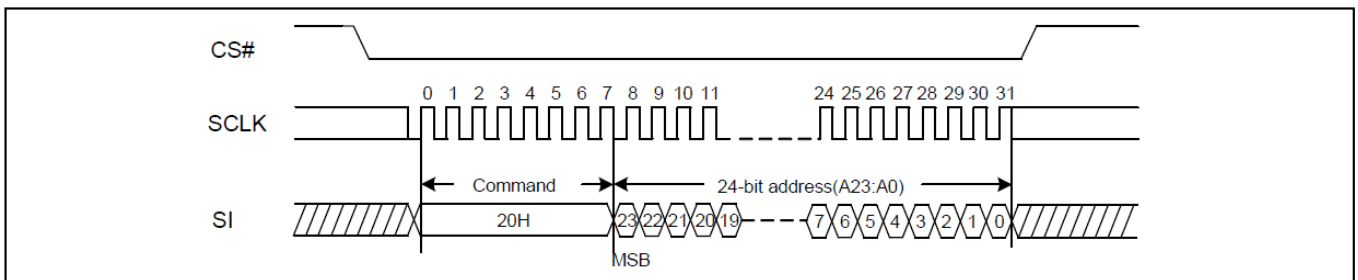

Figure8. Sector Erase Sequence Diagram
The Sector Erase command sequence: CS# goes low → sending Sector Erase command → 3-byte address on SI → CS# goes high. The command sequence is shown in Figure8. CS# must be driven high after the eighth bit of the last address byte has been latched in; otherwise the Sector Erase (SE) command is not executed. As soon as CS# is driven high, the self-timed Sector Erase cycle (whose duration is t_{SE}) is initiated.